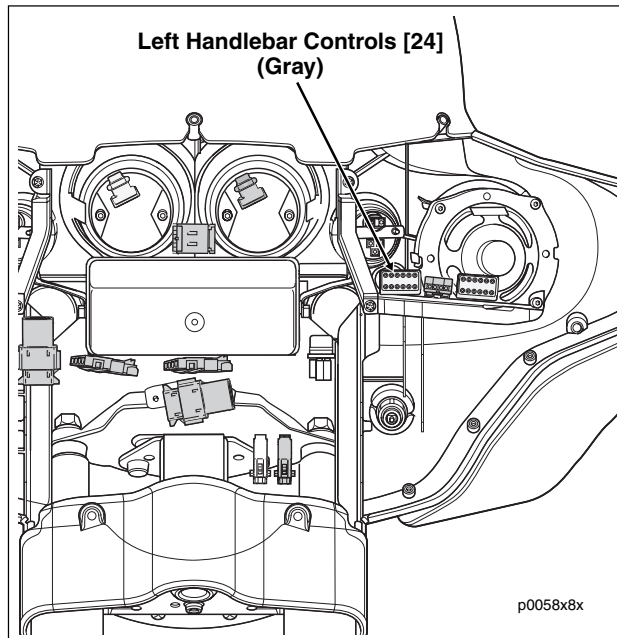
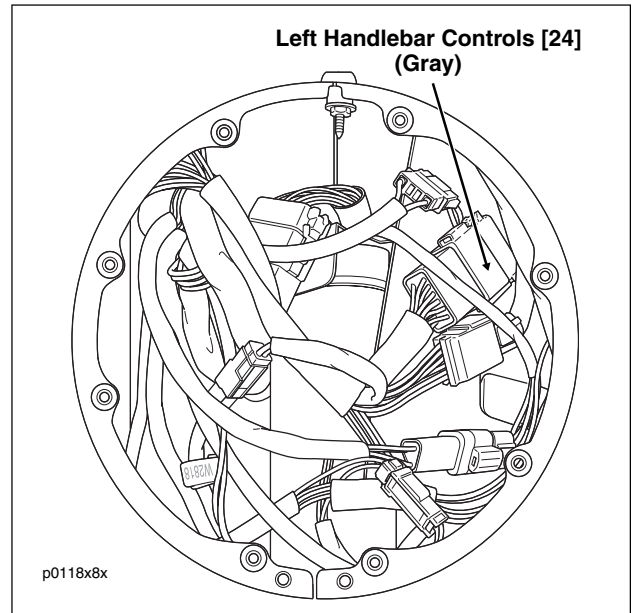

Figure 8-29. Inner Fairing (FLHTP)
Figure 8-30. Headlamp Nacelle (FLHP)
2. Locate the gray 12-place Deutsch connector for the left side handlebar switch controls [24]. See Figure 8-29 for FLHTP models, Figure 8-30 for FLHP models.